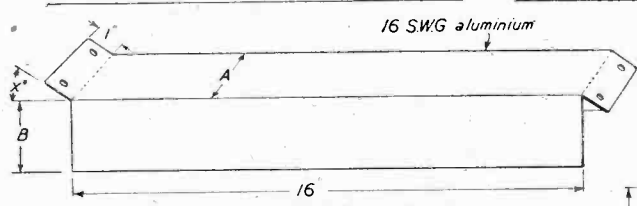

FIG 8 TIME-BASE & VISION CHASSIS DETAILS 18 SWG ALUMINIUM
The two sloping side chassis for the vision strip and the timebases respectively can now be folded to the detailed dimensions of Fig. 8 and fitted between the rear brackets and the top shelf of the control strip at the front. Two fixing holes are drilled in each end flange for assembly, and it is advised that the self-tapping type of screw be used for this purpose, the undersides of the shelves, especially that of item 3, being not readily accessible for the use of ordinary nut and bolt fixing when the units are fully assembled and wired.